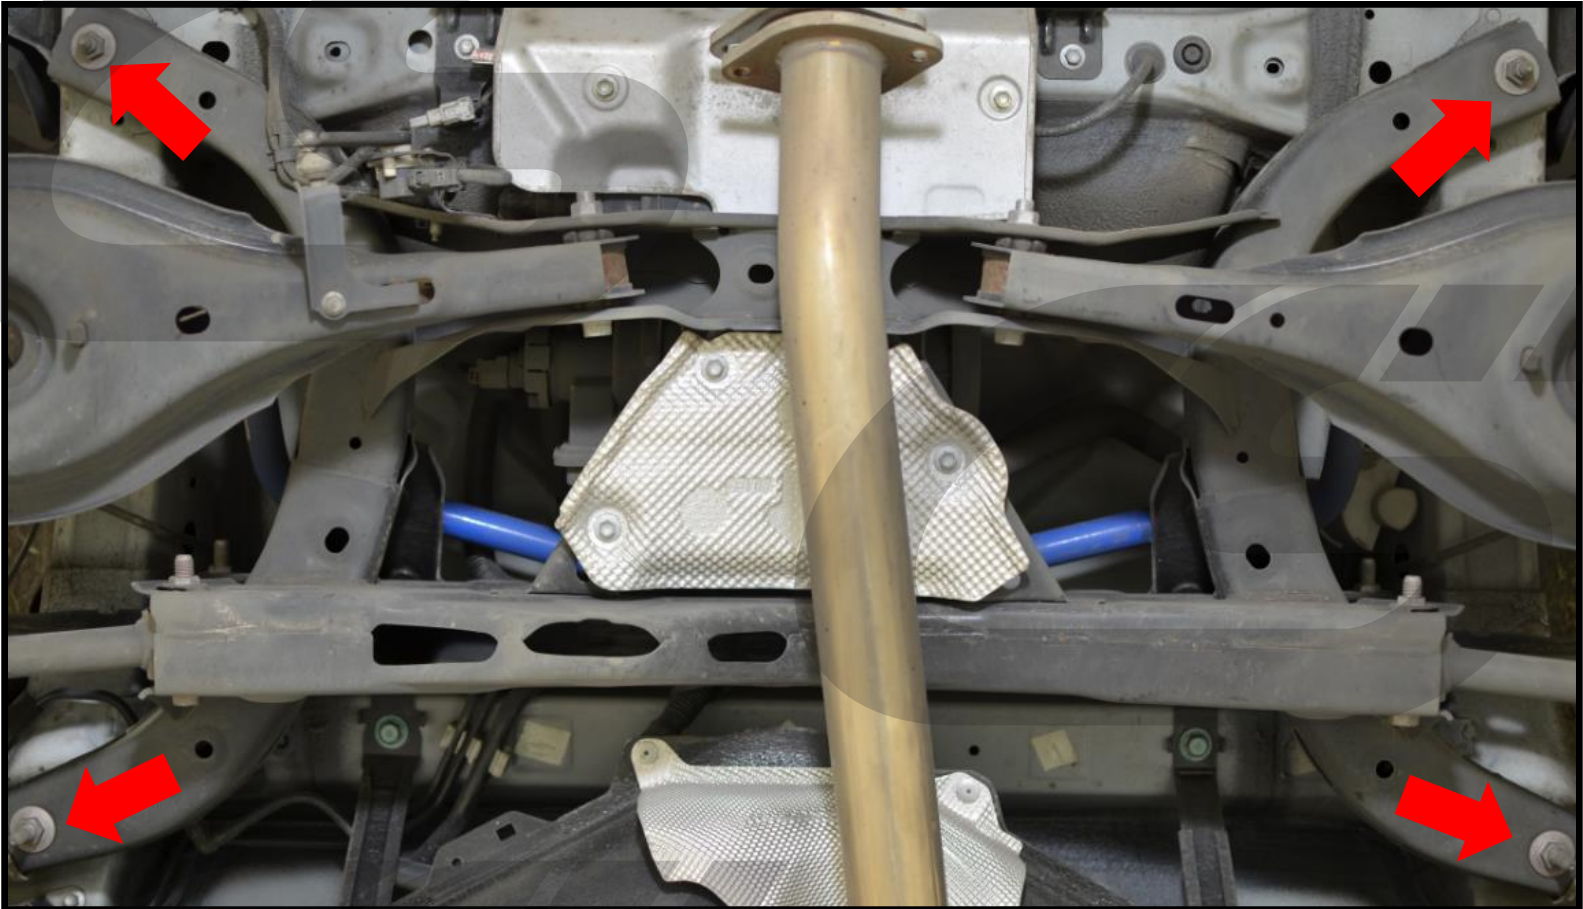

Figure 2a
- a) **Loosen the four 19mm nuts** shown in **Figure 2a**.